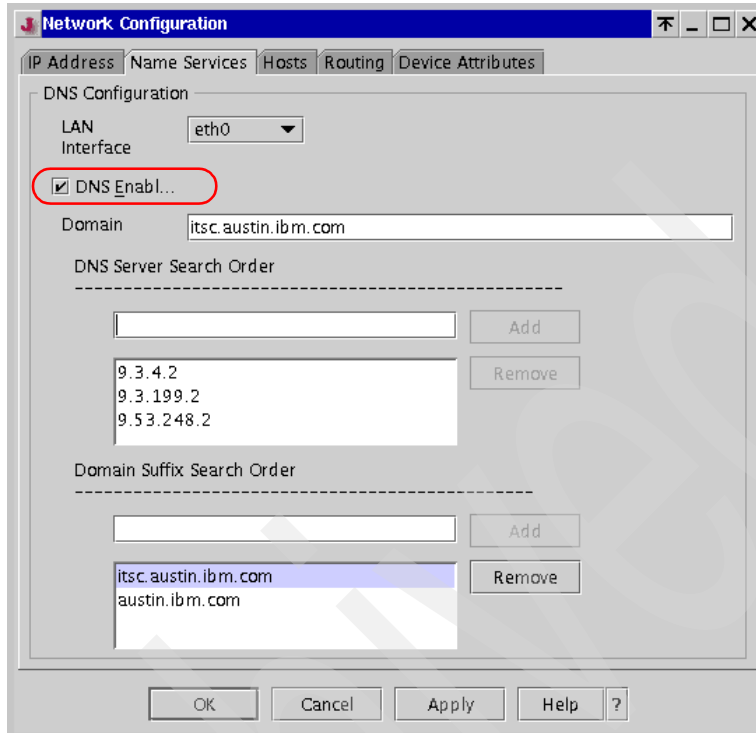

Figure 4-7 Network Configuration: Name Services tab
1. Select the **Name Services** tab in the Network Configuration window, as shown in Figure 4-7 on page 86.